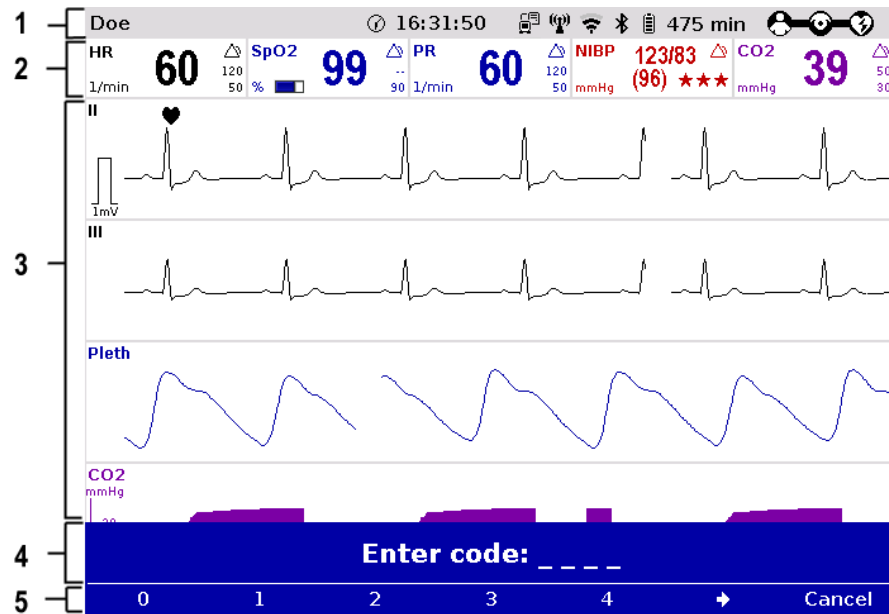

Fig. 4-2 Monitoring unit, example of basic structure of the screen pages
**Status-/alarm line** The following data are displayed in the status-/alarm line (Fig. 4-2, item 1):
**Parameter area** The measured parameters and the configured alarm limits are displayed in the parameter area (Fig. 4-2, item 2) of the display.
**Curve and display area** Up to 6 curves of measured values of monitoring functions can be displayed in the curve and display area (Fig. 4-2, item 3) of the display.
**Message line** In the message line (Fig. 4-2, item 4) of the screen, additional interactions with the user interface are displayed, e. g. to enter the PIN code for the OPERATOR user level or to enter patient data).
**Softkey line** The current function assignment of the softkeys is displayed in the softkey line (Fig. 4-2, item 5).